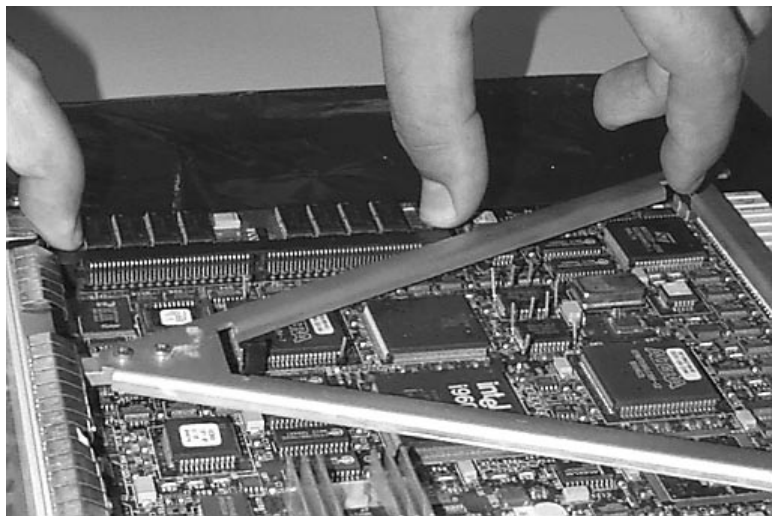

Figure 2-7 Removing the 16MB SIMM
- 2 With your thumbs, push the clips outward to release the SIMM. When pressed, the SIMM releases and rises slightly (Figure 2-7).